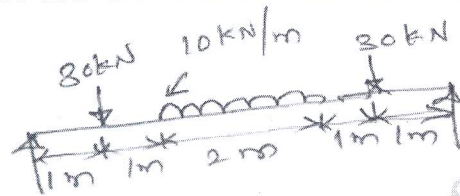

Fig. Q5 (b)
b. Draw SFD and BMD for beam shown in Fig. Q5 (b). (15 Marks)